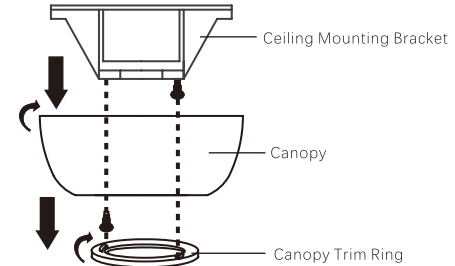

Fig. 5
Step 1. Remove the canopy trim ring from the canopy by turning the canopy trim ring counter clockwise. (Fig. 5)
Step 2. Remove the ceiling mounting bracket from the canopy by removing and saving one of the two screws. Loosen the remaining screw by a half turn. (Fig. 5)